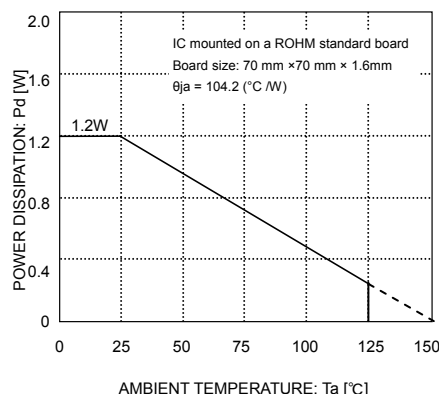

Fig.19
Refer to the dissipation reduction illustrated in Figs. 19 to 21 when using the IC in an environment where $T_a \geq 25^\circ\text{C}$. The characteristics of the IC are greatly influenced by the operating temperature. If the temperature exceeds the maximum junction temperature $T_{j\text{max}}$, the elements of the IC may be damaged. It is necessary to give sufficient consideration to the heat of the IC in view of two points, i.e., the protection of the IC from instantaneous damage and the maintenance of the reliability of the IC in long-time operation.
In order to protect the IC from thermal destruction, the operating temperature of the IC must not exceed the maximum junction temperature $T_{j\text{max}}$. Fig. 19 illustrates the power dissipation/power reduction for the TO252 package. Operate the IC within the power dissipation P_d . The following method is used to calculate the power consumption P_c (W).